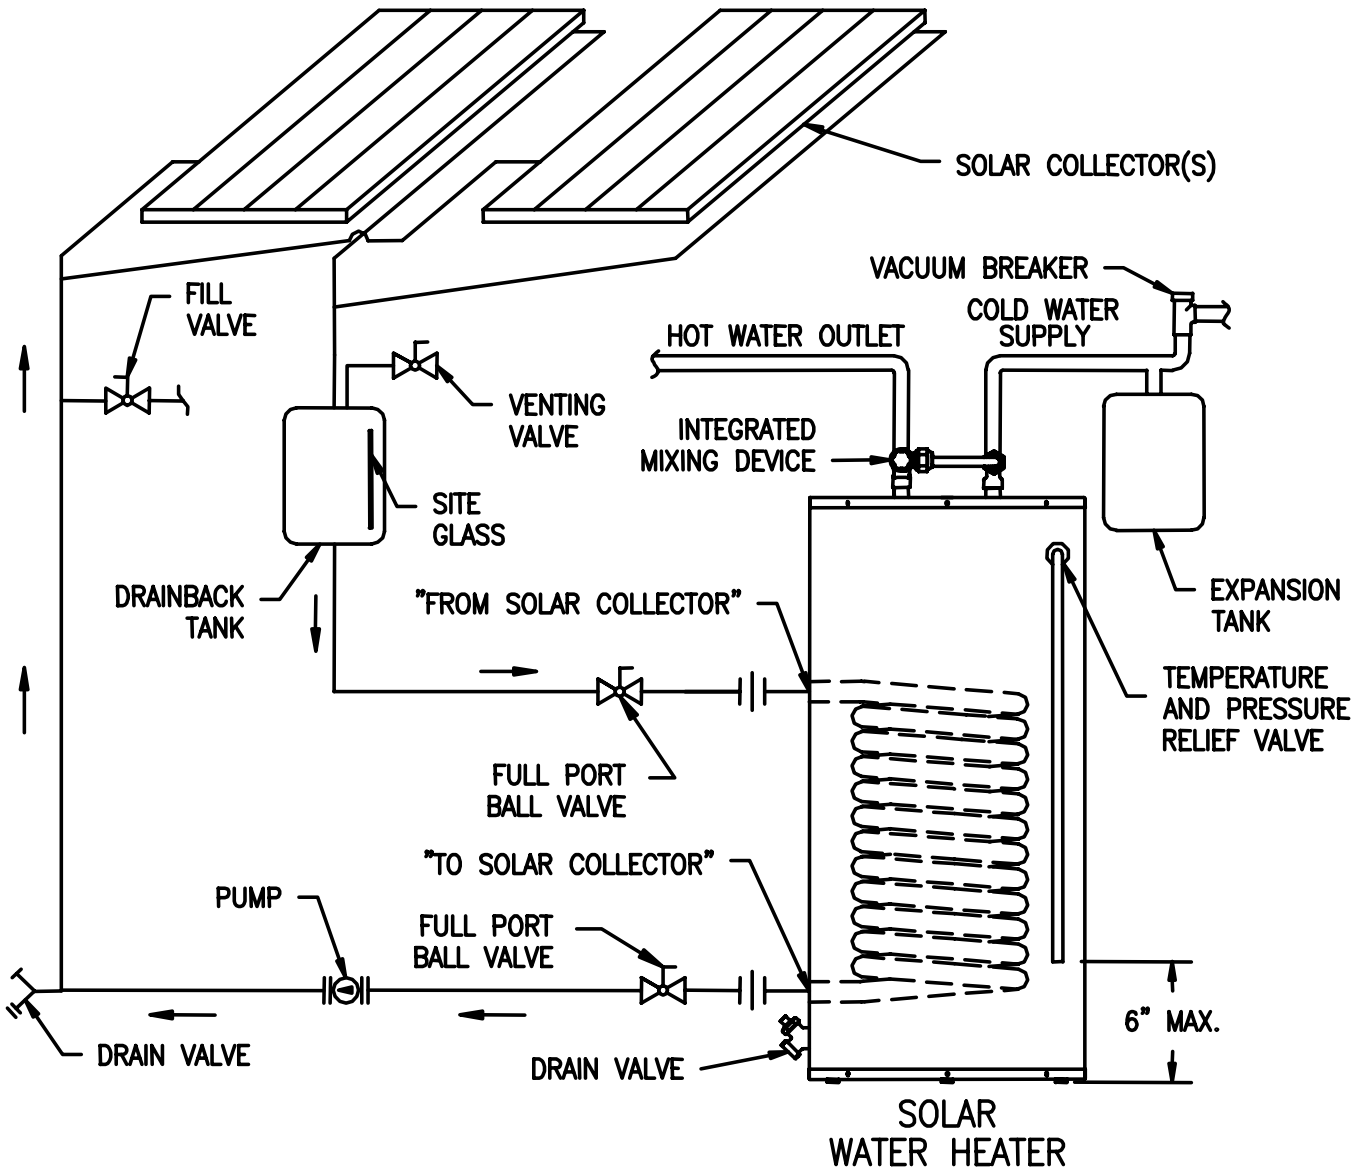

Figure 4 - Solar Collector Piping in Drainback Installation
- For a drainback solar heating system, refer to Figure 4. The solar water heater connection labeled "FROM SOLAR COLLECTOR" should be piped to the solar collector supply piping. Mount the circulator making sure the flow arrow points toward the water heater. The use of shut-off valves and unions are recommended for future service convenience. Pipe and fittings between the solar collector and solar water heater must be $\frac{3}{4}$ " diameter or larger. The piping or drainback tank must have a site glass located at a level above the circulator and water heater.